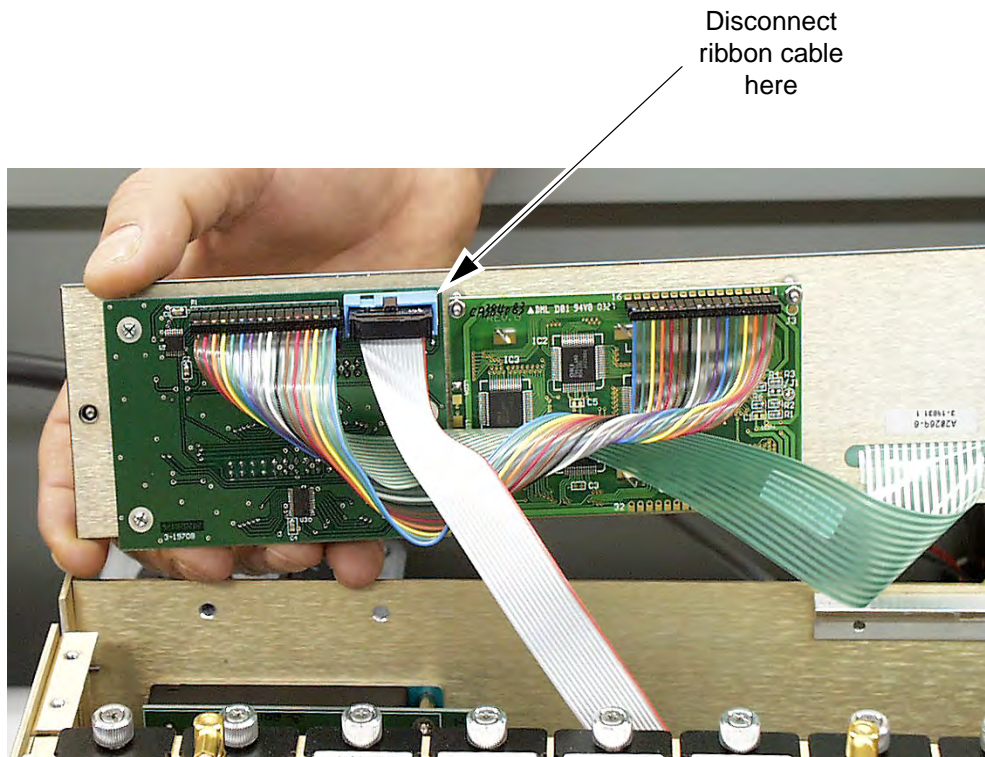

Figure 14: Disconnecting the display/user interface assembly from the card cage.
- 4) Remove the ribbon cable that connects the display/user interface assembly to the card cage, see **Figure 14**.